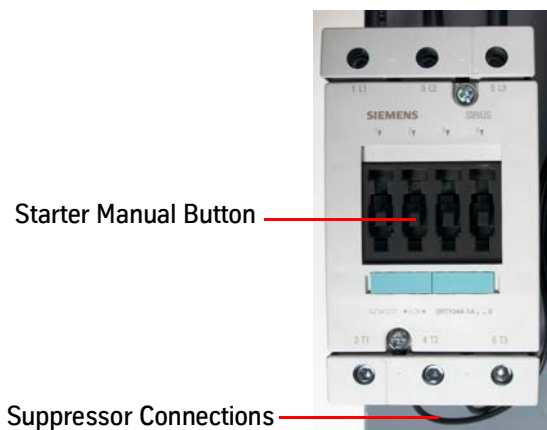

Figure 6 - MC1 Contactor
2. Check the MC1 (fault) contactor for the following, and make corrections as necessary. See Figure 6.